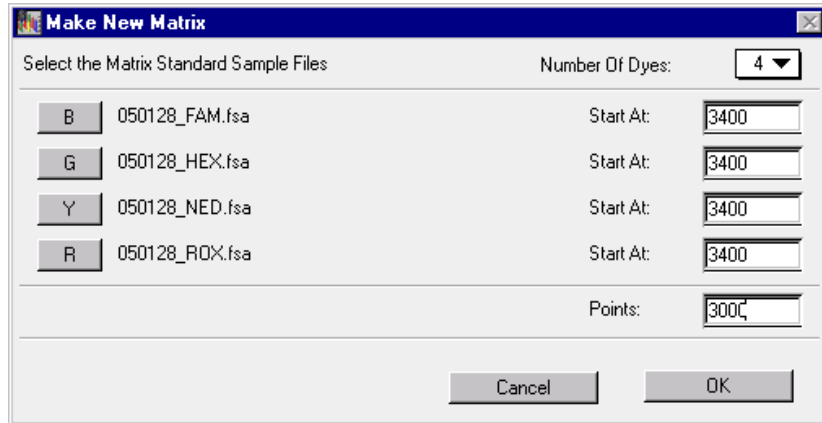

Fig. 3 Select Matrix Samples
- FILE → NEW → MATRIX, as shown in Fig. 3